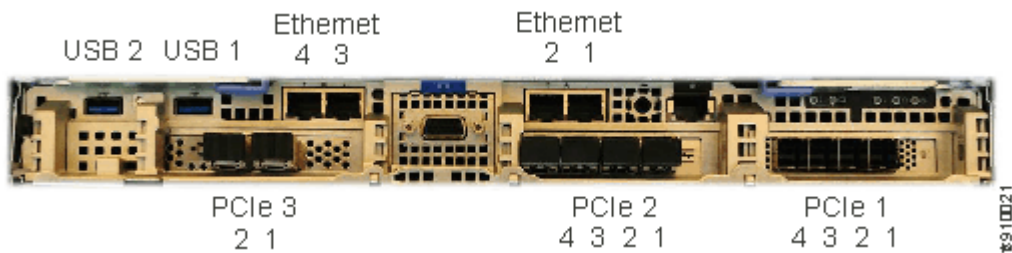
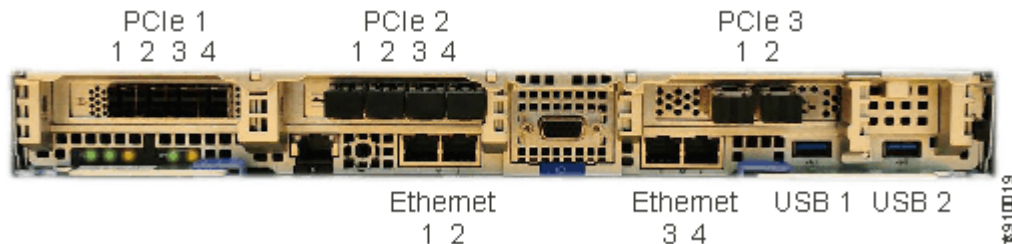

Figure 136. Ethernet ports on canister 1 (upper canister)
Figure 137. Ethernet ports on canister 2 (lower canister)
1. Connect Ethernet port 1 of each node canister in the system to the IP network that will provide connection to the system management interfaces, as shown in Figure 136 on page 123 and Figure 137 on page 123.